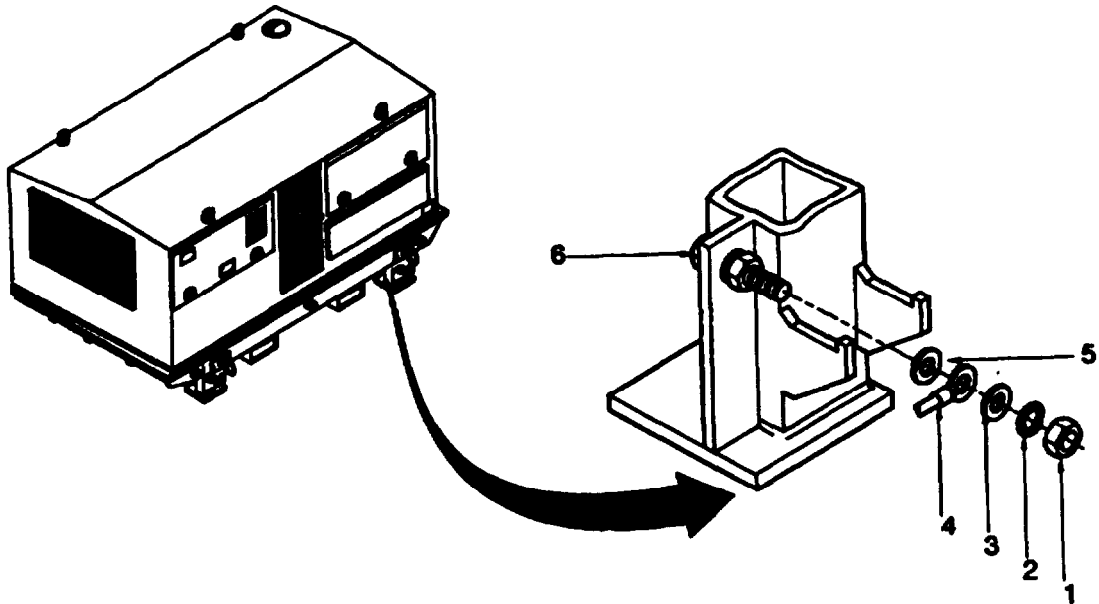

Figure 2-23 Disconnect Ground Cable.
- (1) Remove nut (1, figure 2-23), serrated washer (2) washer (3), and detach ground cable (4) and washer (5) from connector bolt (6).
- (2) Install washers (2,3 and 5) and nut (1) onto bolt (6) and tighten nut (1).